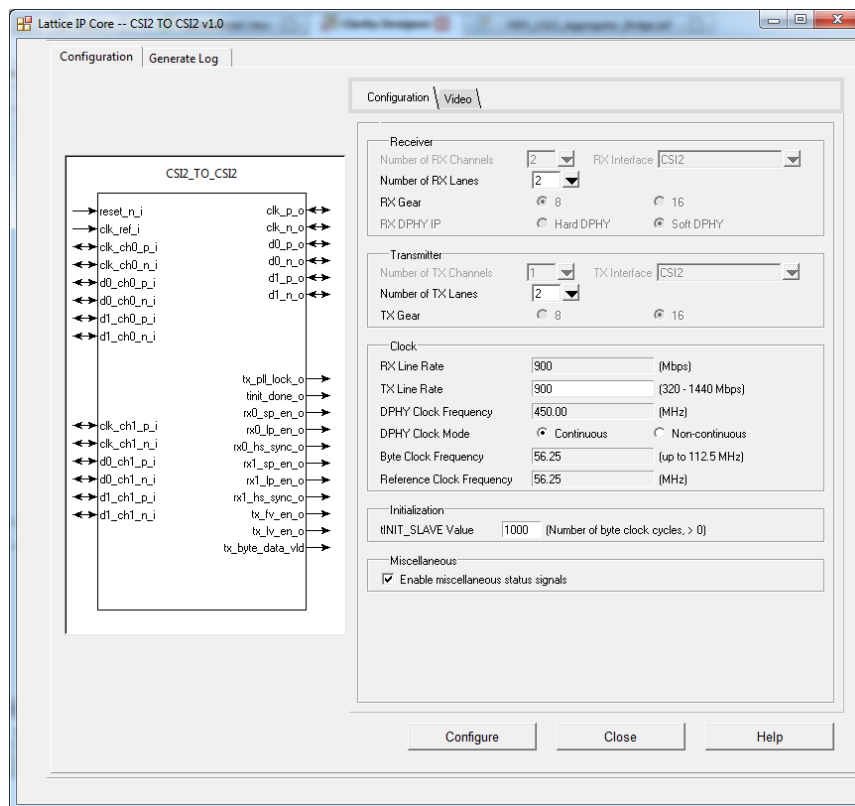
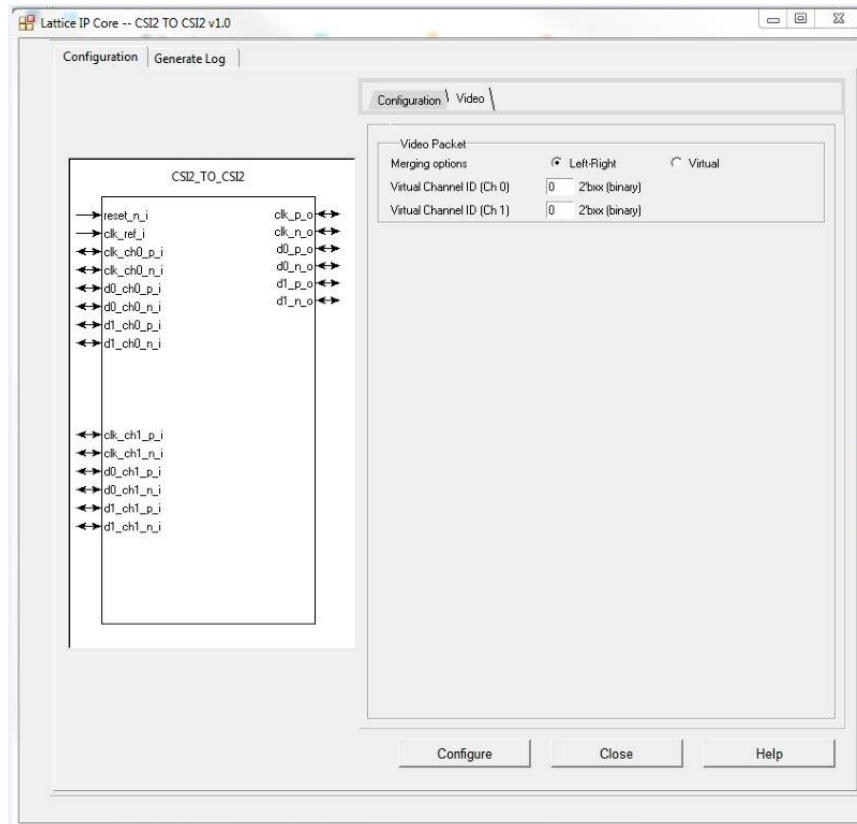

Figure 4.3. Configuration Settings for csi2_to_csi2 IP
Figure 4.4. Other Settings for csi2_to_csi2 IP
- Use the settings shown in Figure 4.3 and Figure 4.4 to configure the IP for running this demo. The project already comes with these settings set in the IP.